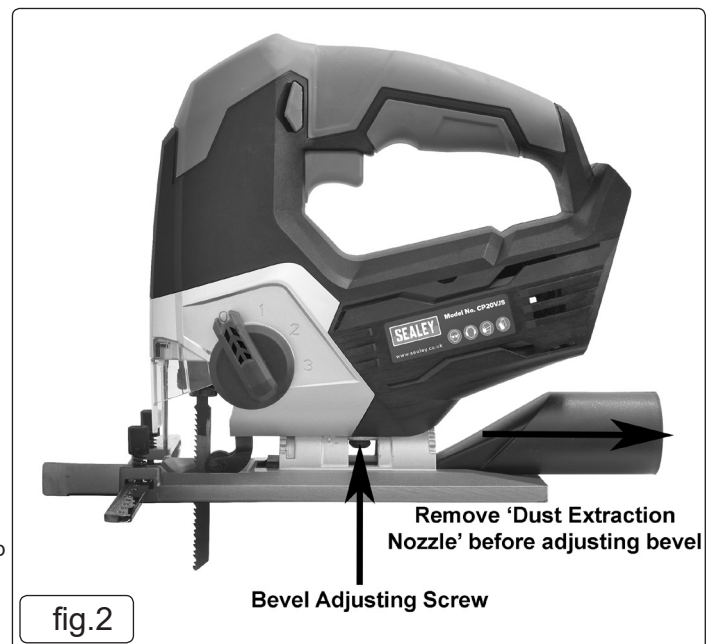

fig.2
- 5.3.1. Loosen the bevel adjusting screw (fig.2) under the jig saw. Push the sole-plate back to adjust the bevel angle to one of the fixed settings of 0, 15, 30 or 45 degrees and re-tighten the bevel adjustment screw.